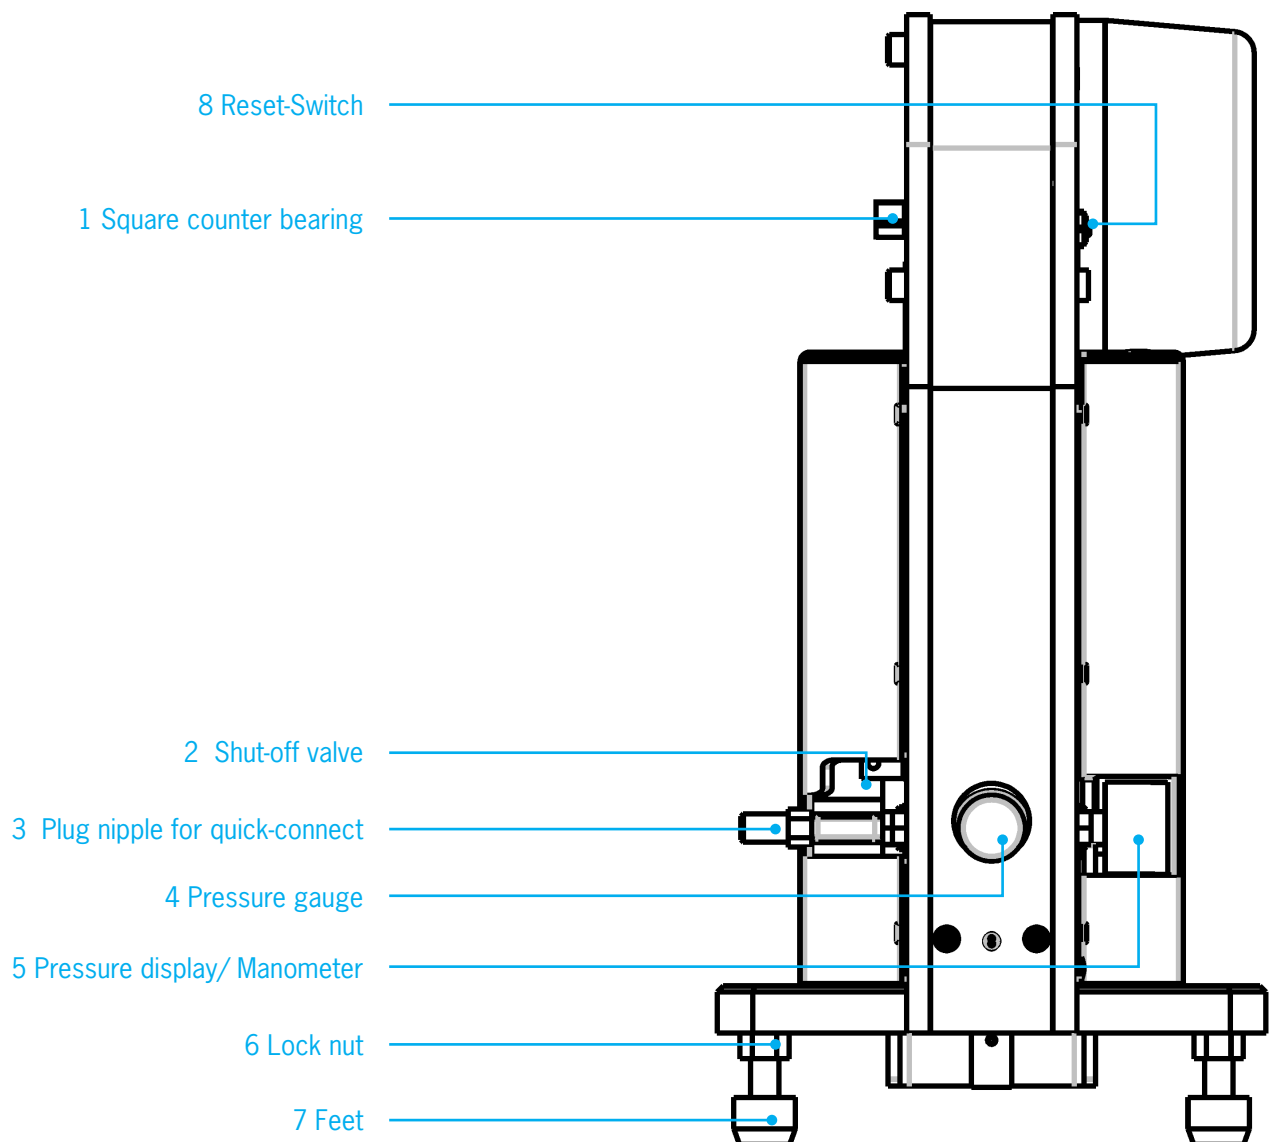
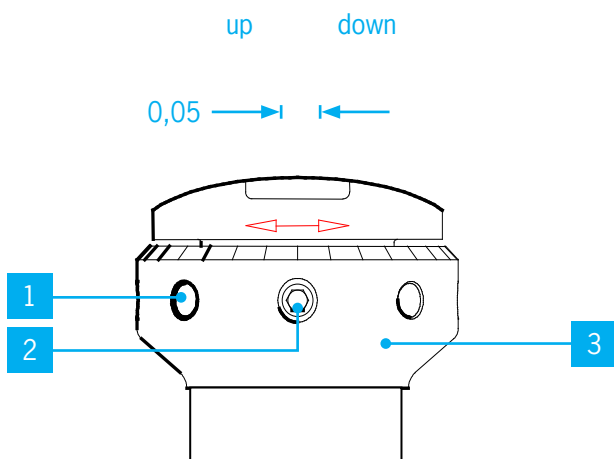

Fig. 2
Fig. 6
1. Place the machine at the final work location. The adjustable feet Fig. 2/7 are used to place the machine firmly onto the work surface and is secured in place with the lock nuts Fig. 2/6. A secure set-up of the machine is of utmost importance!
2. Connect supply hoses for the compressed air. The built-in pressure gauge Fig. 2/4 is set at the factory and limits the air pressure to a max. of 6 bar. Please ensure the proper connection of air supply hose. In order to operate the machine safely, the air pressure needs to be between 5-6 bar.
- Open the shut-off valve Fig. 2/2, connect the air supply hose, this triggers the upper and lower safety covers to close and the crimping die set to move together; machine moves to the starting position
- Close shut-off valve Fig.2/2, disconnect air pressure supply, re-open shut-off valve, open the safety cover by hand
- Release the remaining air by using the RESET switch Fig.2/8
- Interrupt air pressure with shut-off valve Fig.2/2 ; remove air supply hose and open shut-off valve, open safety cover by hand
- Close the shut-off valve, connect the machine to the air supply and open the shut-off valve Fig.2/2
- Close shut-off valve Fig.2/2, disconnect air pressure supply hose, open shut-off valve Fig.2/2
- Release the remaining air by pushing the reset button Fig.2/8, the safety cover will close automatically
- Close shut-off valve Fig.2/2, connect the air pressure supply hose, reopen shut-off valve Fig.2/2
- Interrupt air pressure with shut-off valve Fig.2/2 ; remove air supply hose and open shut-off valve
- Release the remaining air by pressing the reset button Fig.2/8
- Move the upper and lower die sets apart by turning the square counter bearing (keep RESET Fig.2/8 compressed the entire time) with an SW 12 wrench until the lower dead center and until the scale and setting information are visible Fig.6
- Loosen the tensioning screw Fig.6/2 with an SW 2,5 mm Allen wrench
- Choose the desired dimensional alignment by using the adjusting ring Fig.6/3. Use the extra holes provided to select the desired setting Fig.6/1.
- Upon completion of the alignment , secure the adjusting ring Fig.6/3 by tightening the tensioning screw Fig.6/2 (At 180° is another tensioning screw located. In order to ensure a safe clamping only one tensioning screw must be tightened, which ever screw is closer to the operator of the machine.)
- Close the shut-off valve, connect the air supply lines and open the shut-off valve Fig.2/2